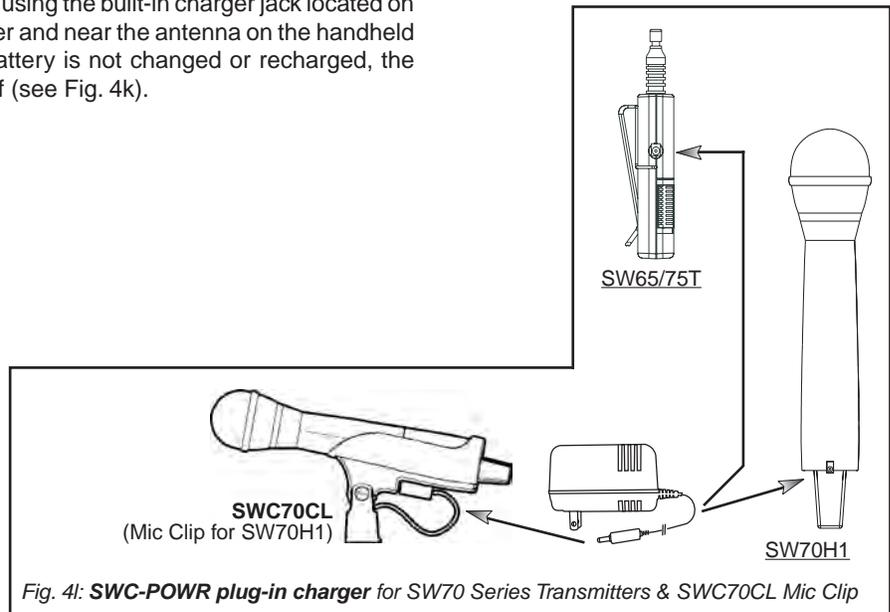

Fig. 4l: SWC-POWR plug-in charger for SW70 Series Transmitters & SWC70CL Mic Clip
6. Beltpack and handheld batteries can be recharged without removing them from the transmitters. Just connect charger plug to the transmitter jack (see Fig. 4l).
Equipment Connections. Each SW65- & 75-T or SW-H Series transmitter comes equipped with an SWC-POWR Tireless Wireless™ plug-in charger (see Fig. 4l). In addition, each SW-H comes with its own battery-charging mic clip (SWC70-CL). The SWC-POWR charger can be plugged directly into either the transmitter or into the clip. A Sabine rechargeable battery (SWBC1) will charge whenever the mic clip is connected to the Sabine SWC-POWR charger and the handheld is properly placed within the mic clip.
Battery Warnings. When the transmitter battery voltage drops below a critical threshold, the battery icon (which normally displays the voltage level) will begin to flash. This will occur on the transmitter and receiver and is an indication that you need to replace the battery, or charge it by placing the handheld mic in the charger clip. **NOTE:** Microphone will still transmit audio when placed in clip. Alternatively, you can connect the charger directly to the transmitter using the built-in charger jack located on the side of the belt-pack transmitter and near the antenna on the handheld transmitter (see Fig. 4l). If the battery is not changed or recharged, the transmitter will eventually turn off (see Fig. 4k).